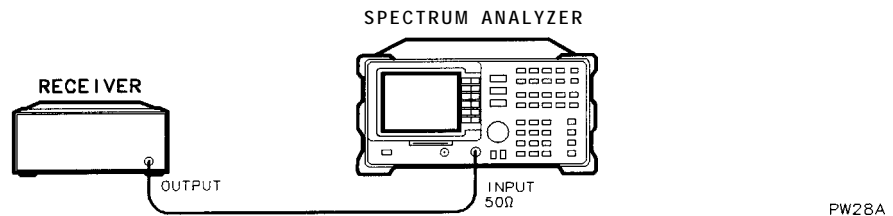

Figure 3-22. Test Setup for Receiver Spurious Emissions
2. Press **Rcvr** Spurious. Refer to Figure 3-22 for the test setup.